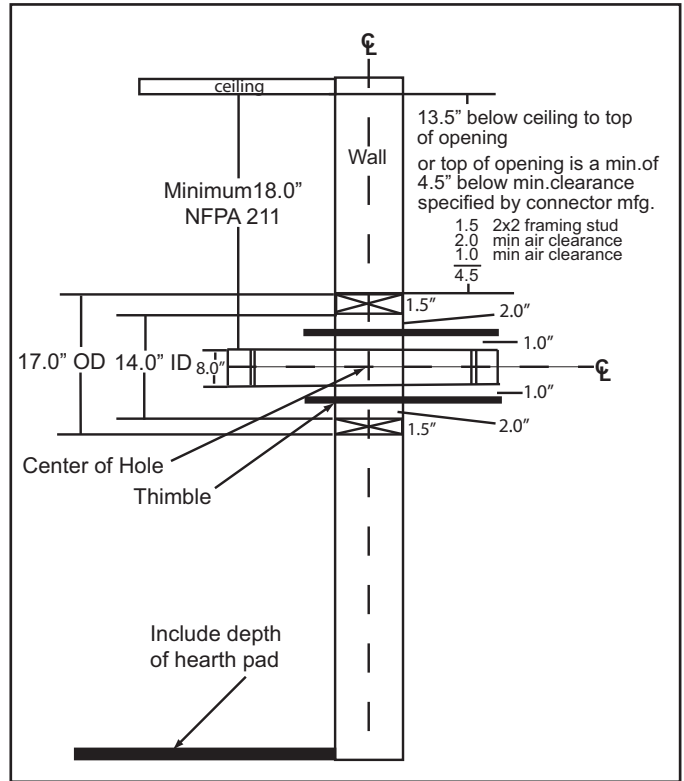

Figure 19.1
- Top of wall opening is a minimum of 13-1/2 inches (343mm) from ceiling or 4-1/2 inches (114mm) below minimum clearance specified by chimney connector manufacturer. NFPA 211 minimum vertical clearance of 18 inches (457mm) from chimney connector and ceiling or minimum recommended by chimney connector manufacturer. **Figure 19.1.**
1. Open inside wall at proper height for the chimney connector to enter the masonry chimney. **Figure 19.1**
3. Construct a 17 inch x 17 inch (432mm x 432mm) outside dimension frame from 2 x 2 framing lumber to fit into wall opening. Inside opening of frame should be no less than 14 inch x 14 inch (356mm x 356mm). **Figure 19.1.**